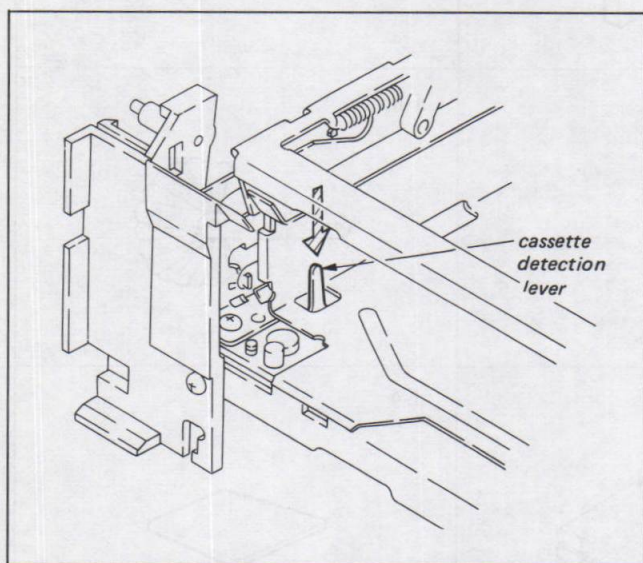

Fig. 1-4. Cassette detection lever
- 1) Depress the cassette detection lever shown in Fig. 1-4 while lowering the cassette compartment.